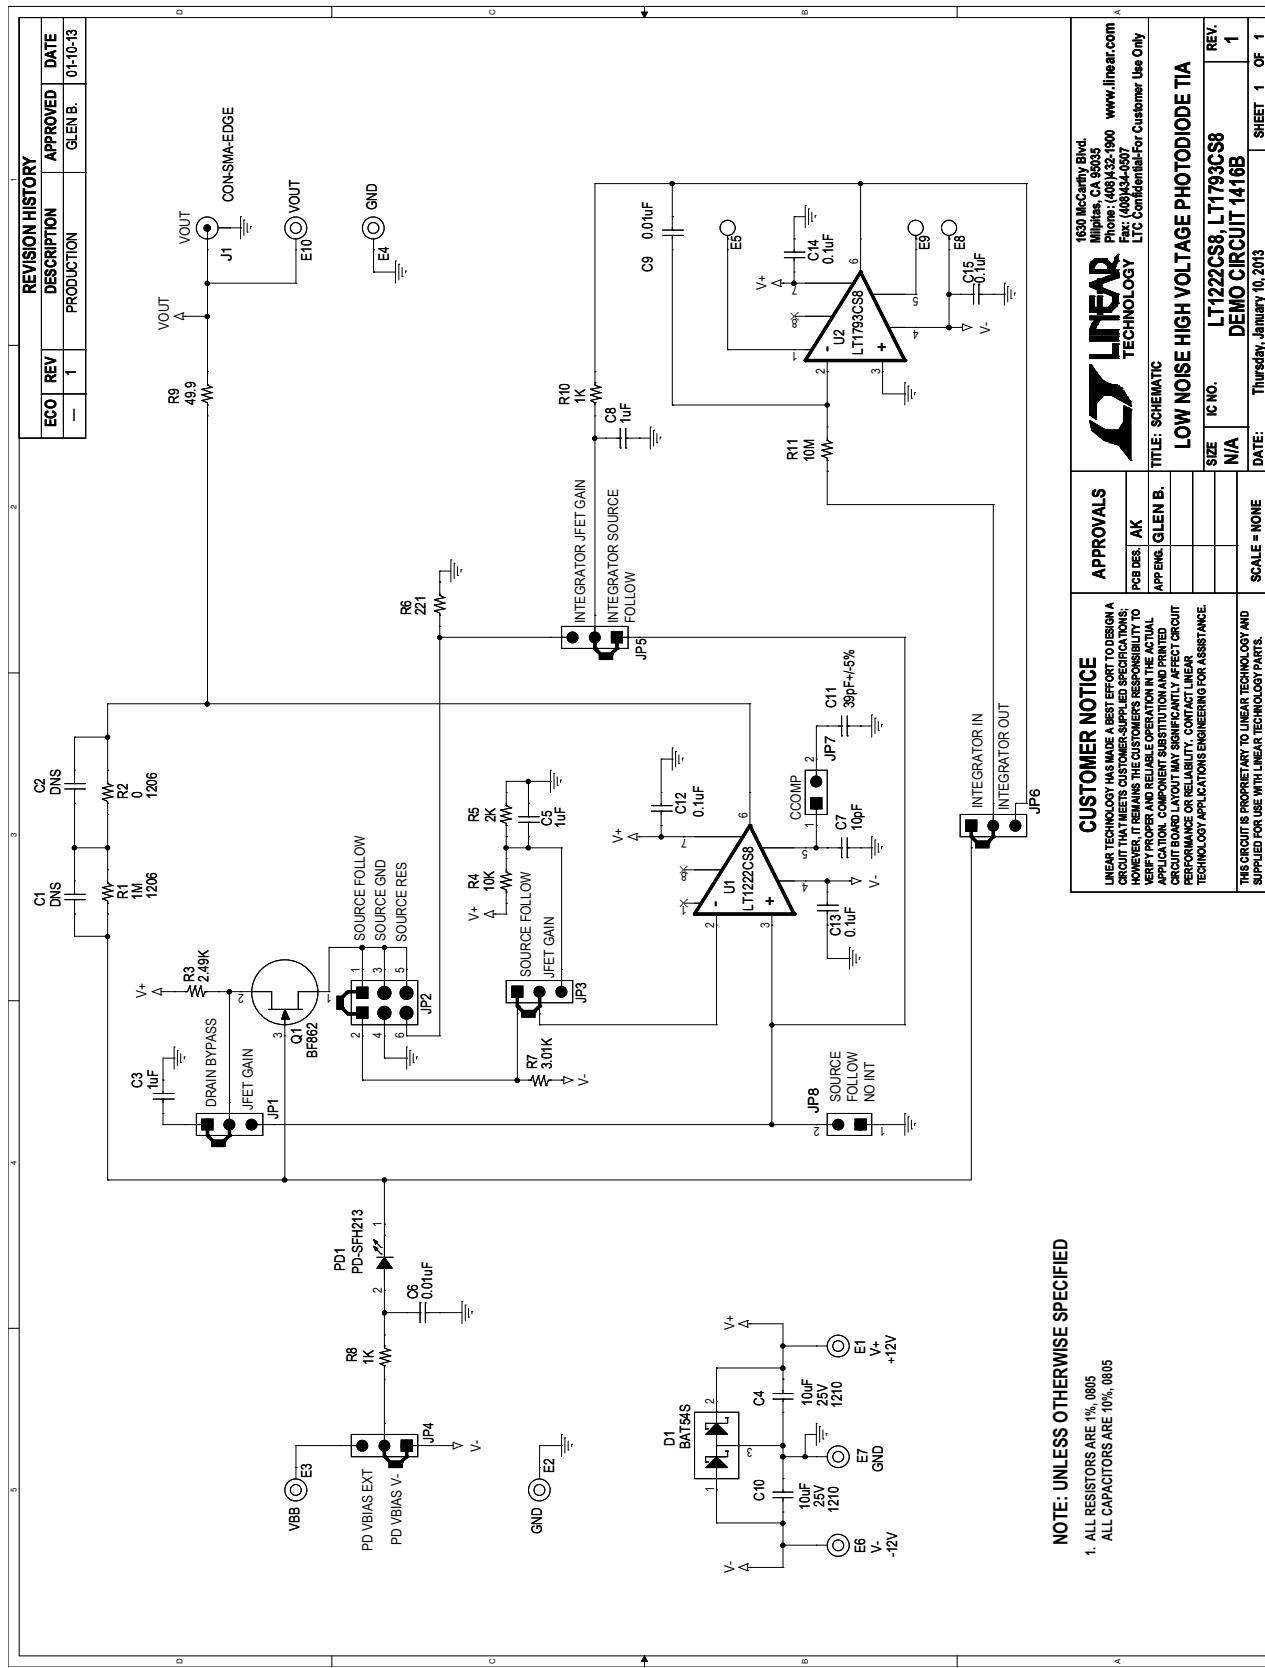

Figure 4. DC1416 Demo Circuit Schematic
**Table 1. Jumper Settings for Various Configurations. Refer to Figures 2 and 3 for Qualitative Descriptions of the Configurations and to Figure 4 for the Complete Schematic.**